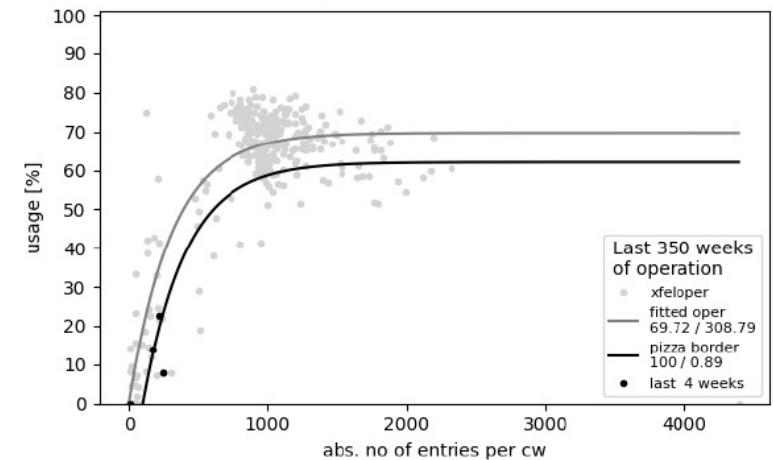

fig.2 Repair time
- We already introduced performance metrics like failure recurrence, repair times, ... for evidence based improvements (fig.2, fig.3).